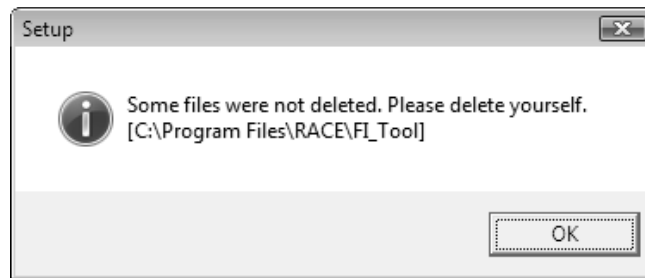

Fig. 27 Uninstall Completion Screen
(4) Click **Yes** to start the uninstalling procedure. After the uninstallation is completed, Uninstall Completion screen shown in Fig.27 appears.